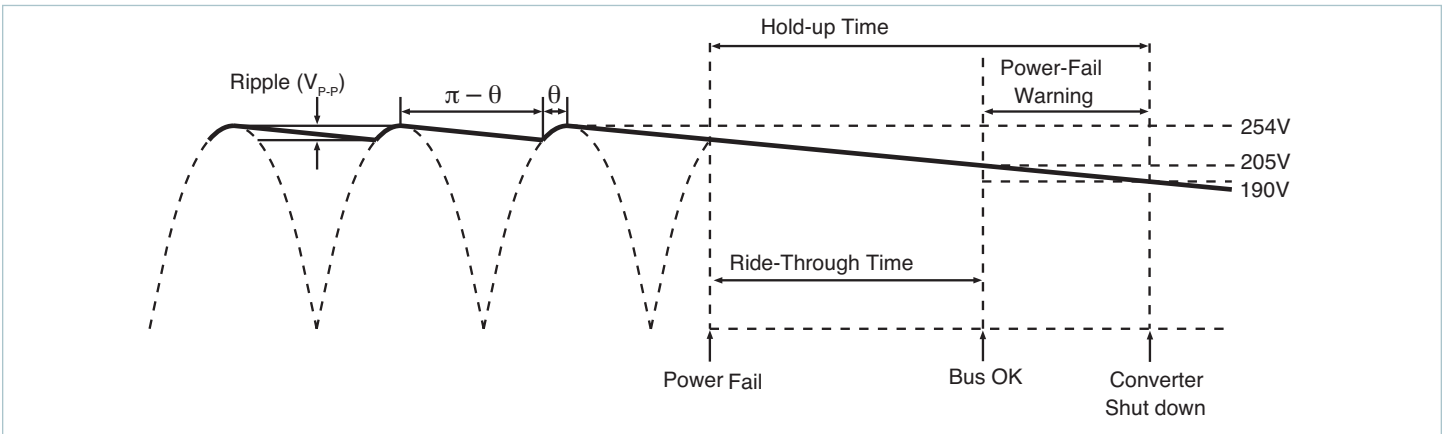
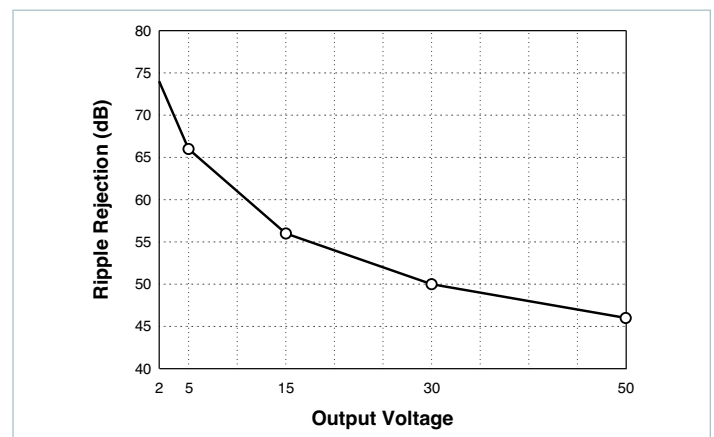

Figure 7.7 — General timing diagram of bus voltage following interruption of the AC mains
Figure 7.11 — Converter ripple rejection vs. output voltage (typical)
Hold-up Capacitors: Hold-up capacitor values should be determined according to output bus voltage ripple, power-fail hold-up time, and ride-through time. (Figure 7.7) Many applications require the power supply to maintain output regulation during a momentary power failure of specified duration, i.e., the converters must hold up or ride through such an event while maintaining undisturbed output voltage regulation. Similarly, many of these same systems require notification of an impending power failure to allow time to perform an orderly shutdown.
The power-fail warning time (Δt) is defined as the interval between (BOK) and converter shutdown (EN) as illustrated in Figure 7.7. The Bus OK and Enable thresholds are 205V and 190V, respectively. A simplified relationship between power fail warning time, operating power, and bus capacitance is obtained by inserting these constants:
For example, a converter whose output is 15V and nominal input is 300V will provide typically 56dB ripple rejection, i.e., 10V_{p-p} of input ripple will produce 15mV_{p-p} of output ripple. (Figure 7.11) Equation 3 is again used to determine the required capacitance. In this case, V_1 and V_2 are the instantaneous values of bus voltage at the peaks and valleys (Figure 7.7) of the ripple, respectively. The capacitors must hold up the bus voltage for the time interval (Δt) between peaks of the rectified line as given by:
(Figure 7.7)
Figure 7.11 is used to determine the ripple rejection of the DC-DC converter and indicates a ripple rejection of approximately 60dB for a 12V output. If the ripple on the bus voltage is 12V_{AC} and the ripple rejection of the converter is 60dB, the output ripple of the converter due to ripple on its input (primarily 120Hz) will be 12mV_{p-p}.